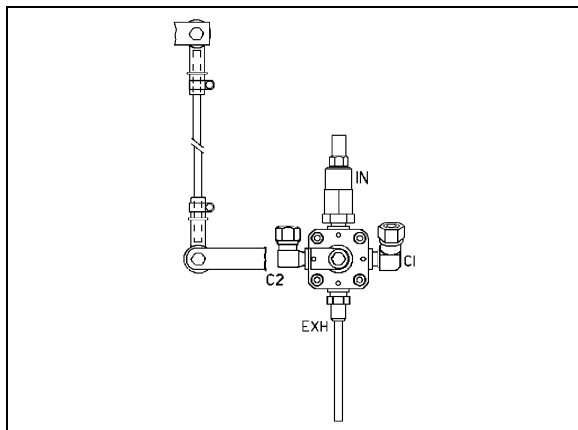

FIGURE 37: FRONT HEIGHT CONTROL VALVE 16100
- Loosen the clamp on the height control valve rubber coupling and bring it up or down (Figure 37).